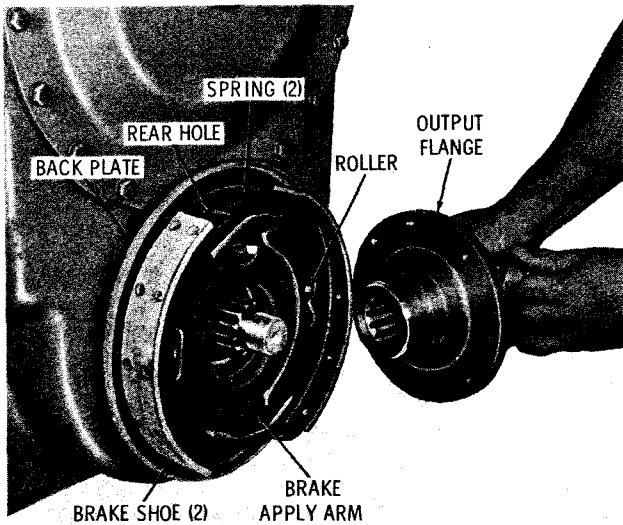

Fig. 7-44. Installing rear output flange
(3) Install two brake shoes and two springs (fig. 7-44). Install the two springs